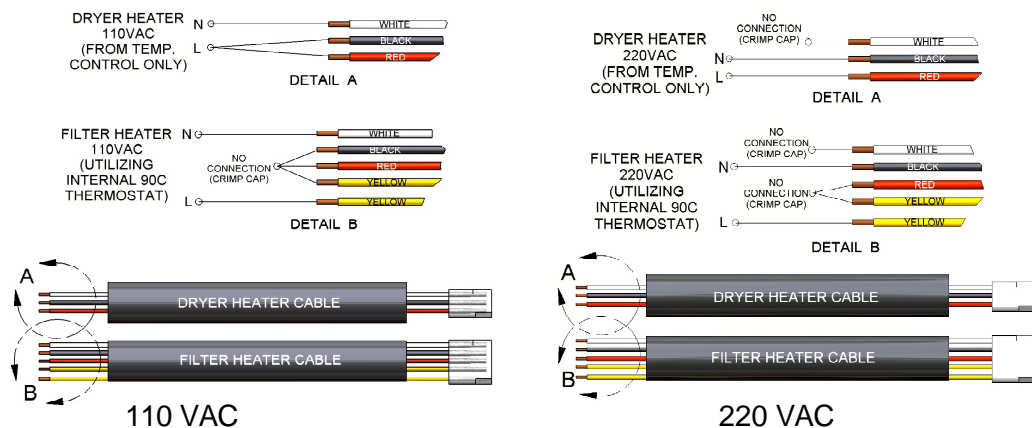

Figure 3
2. Connect heater wires to 115 VAC or 230 VAC power source (see Figure 3).